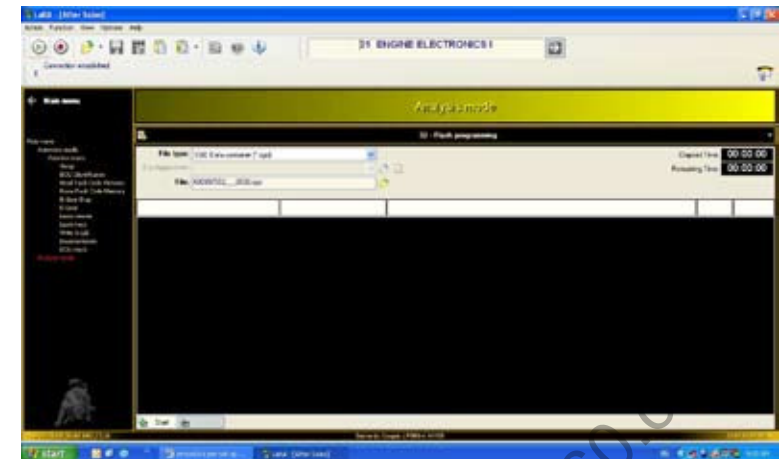

Fig.110
8. Press “Start” to launch the link (**Fig.110**) and wait about 18 minutes until you receive feedback about the outcome of the MASTER control unit update.